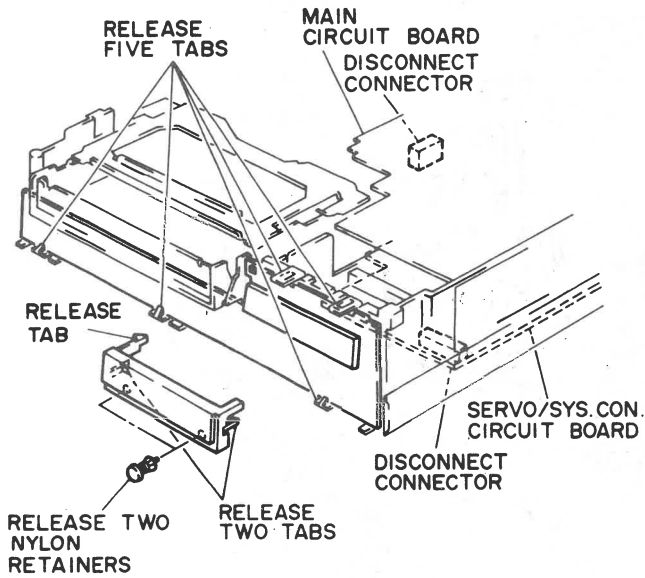

Fig. 5 Timer/Input Key/Function Switch Circuit Board Removal
### Timer/Input Key/Function Switch Circuit Board Removal (Fig. 5)
1. Release the Main circuit board and refer to Fig. 5.